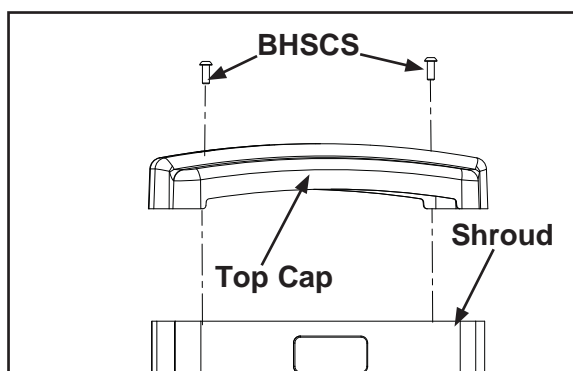

Figure 1
- A. Using a 7/32" Allen wrench, remove the two Button Head Socket Cap Screws (BHSCS) securing the top cap to the frame. See Figure 1.